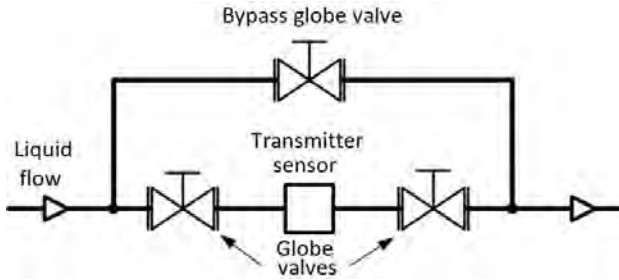

Figure 5.7 Installation of the sensor as per a typical bypass scheme
**Dismantling the sensor for maintenance:** If the flow meter requires periodic calibration or maintenance (cleaning), it is recommended to install a bypass pipeline on the pipeline where the flowmeter measuring sensor is planned to be installed, which will allow the process not to be stopped during maintenance work, Figure 5.7.